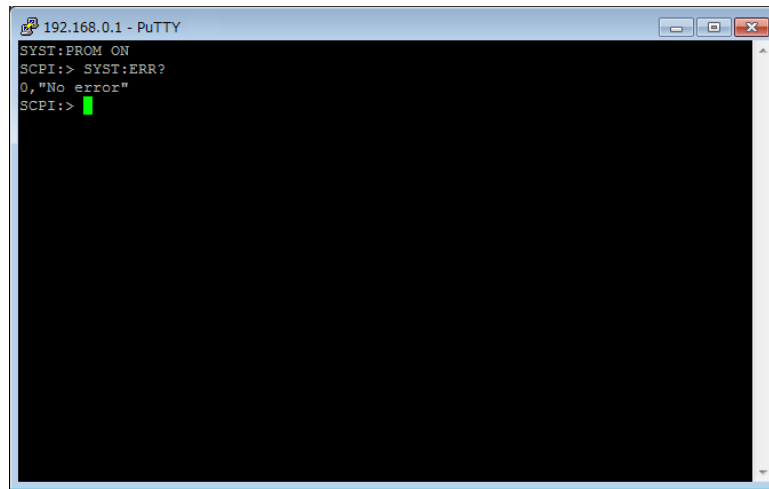

Figure 1.15: Connection established with PuTTY
6. A window appears, see Figure 1.15.